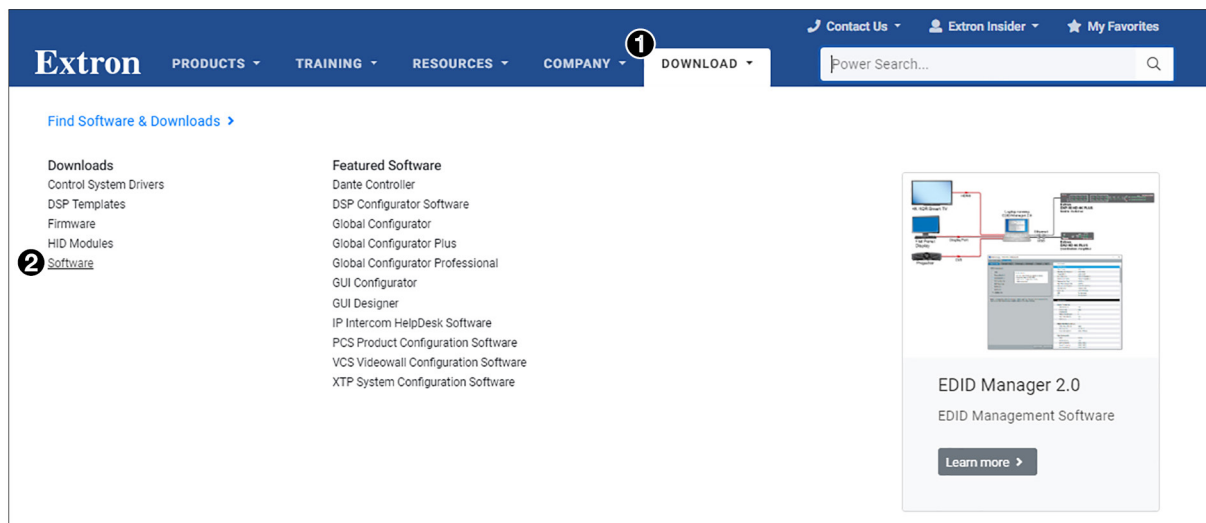

Figure 23. Software Link on the Download Page
1. On the Extron website, select the **Download** tab (see figure 23, **1**).